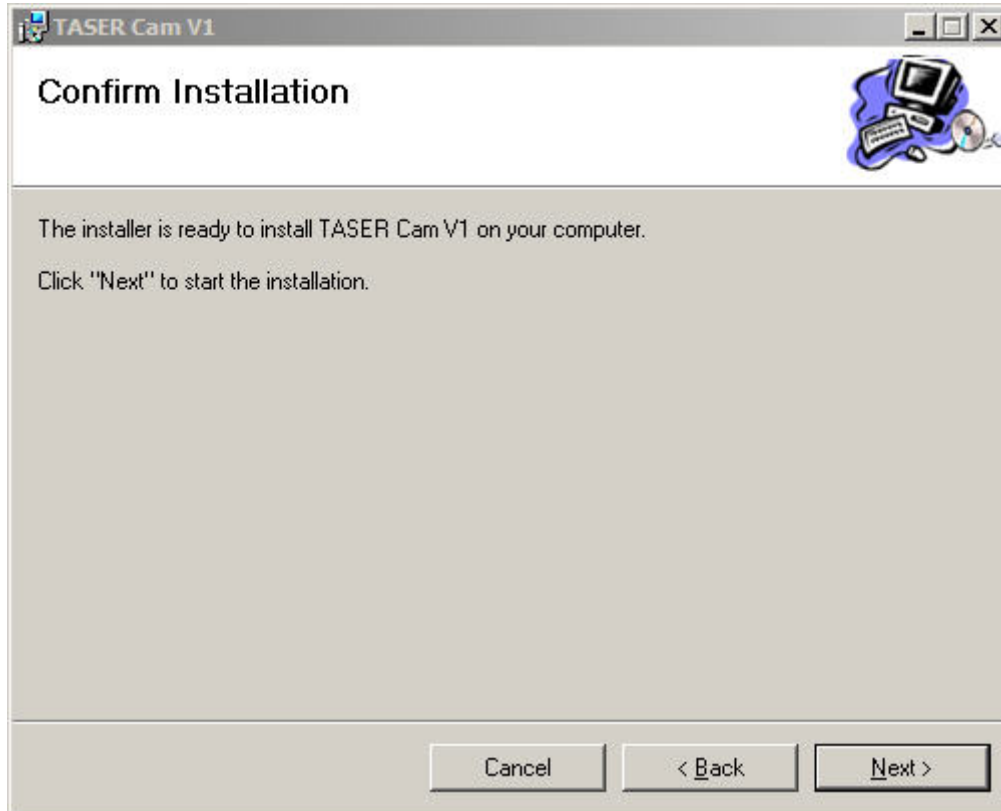

Figure 3
7. The system displays the Confirm Installation screen. Click **Next** to continue (Figure 3).